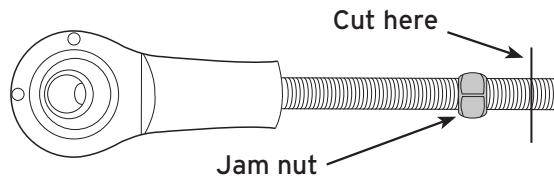

Fig. 15
7. Before cutting the rod, thread the jam nut back on the rod. Use the nut to debur the rod end. (Fig. 15).